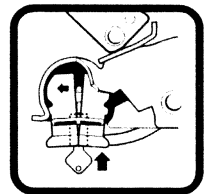

fig. 3
- 4.3. Insert the barrel lock, turn the key to lock it in place and then remove key (fig. 3).